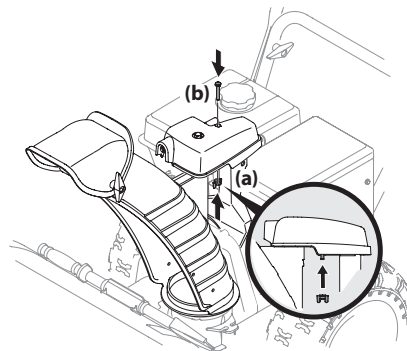

Figure 2-23
3. Finish securing chute control head to chute support bracket with wing nut (a) and hex screw (b) removed in Step 1. See Figure 2-23.